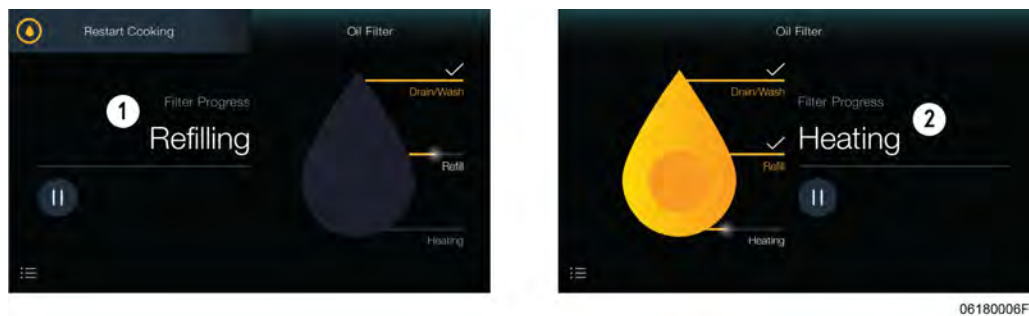

Figure 4-15
- 4) **Refill** - Oil continues to pump and the drain valve closes to allow the oil to refill the vat, see (1) Figure 4-15 , page 31.
- 5) **Heating** - As the vat fills, the heat turns on to raise the oil temperature back to frying temperature, see (2) Figure 4-15 , page 31.